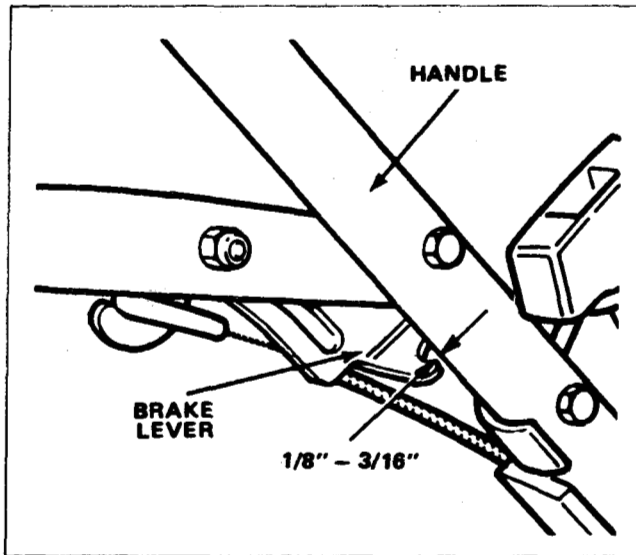

Figure 15
2. **CHECK ADJUSTMENT** - See Figure 15. Move the control bar toward the handle until slack in the wire is removed. Gap between the brake lever and the handle must be 3-5 mm (1/8" - 3/16"). See step 3 for adjustment.